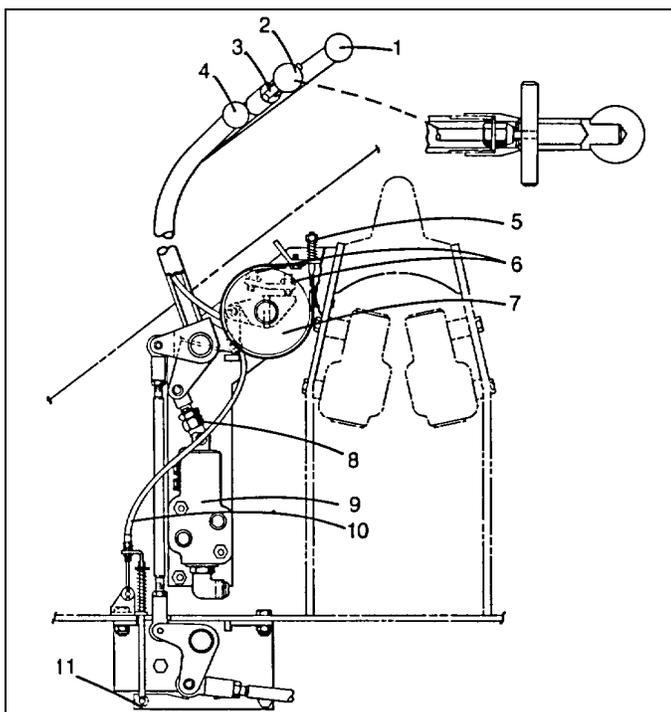

Fig. 4-3 NA210-D
- (a) The brake must be adjusted if the cylinder piston is flush with the edge of the cylinder when the brake is applied. To adjust the brake, back off on the locknut and tighten the adjusting nut until the spring length (A) is 13-5/8" (346.1mm) with the brake applied. This dimension is spring length only, and does not include the spring guides.
4-7 Swing Brake Control Adjustment: (See Fig. 4-3). The brake band tension may be adjusted by tightening the spring loaded nut (5) on the band.